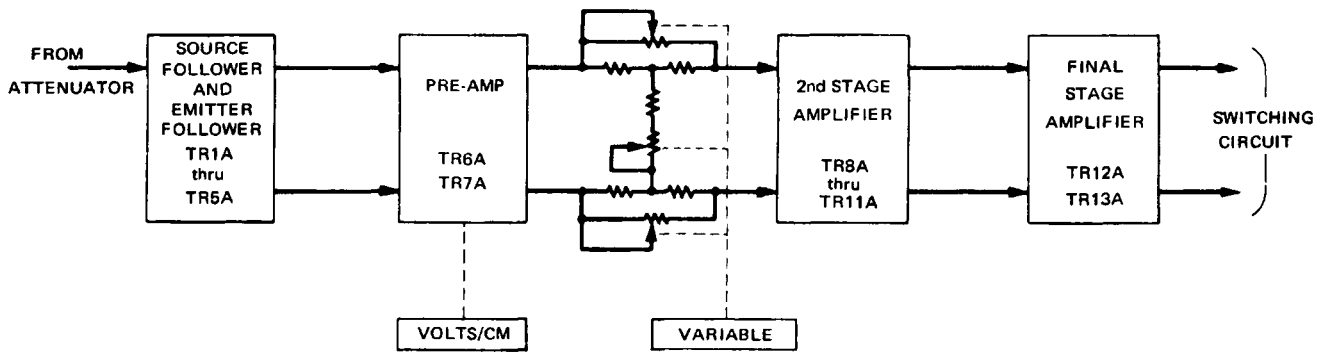

Figure 3-2 Channel 1 Preamplifier Block Diagram
c. Channel 1 Preamplifier (Schematic 2). The preamplifier input circuit consists of a FET source follower stage (TR1A) driving emitter follower TR3A. The input to TR1A is protected by TR2A, which is diode-connected and clamps signals which could damage the input stage. Screwdriver adjustments R39A and R42A provide dc balance control for the differential amplifier stages to avoid trace shift when the VOLTS/CM control is switched from the 5 mV/cm position to the 10 mV/cm position. Figure 3-2 is a block diagram of this circuit.